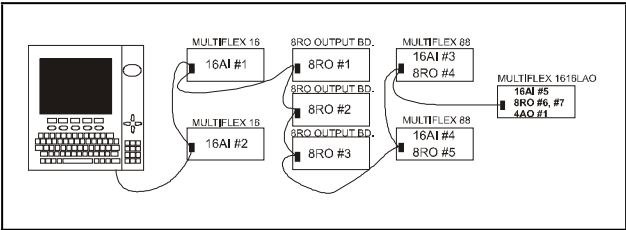

Figure 3-4 - Network Device Numbering (E2 Network Shown)
**Figure 3-4** provides a graphic representation of input and relay output board numbering for two MultiFlex 16s, three 8ROs, two MultiFlex 88 boards, and a 1616LAO. Note in this configuration that even though there are only 8 devices, they behave on the network as if they are 13 devices: 16AIs #1-5, 8RO #1-7, and 4AO #1.